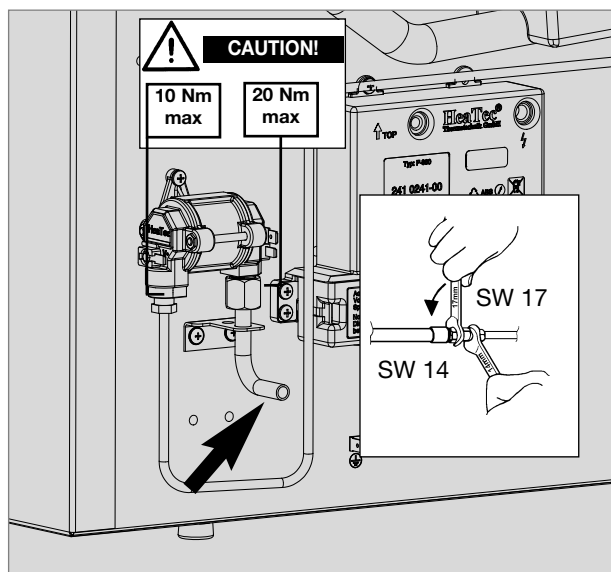

Fig. 34
- The gas connection to the appliance is effected by means of (Ermeto-) olive type fitting L8, DIN 2353-ST, complying with EN 1949 (s. figure 34).